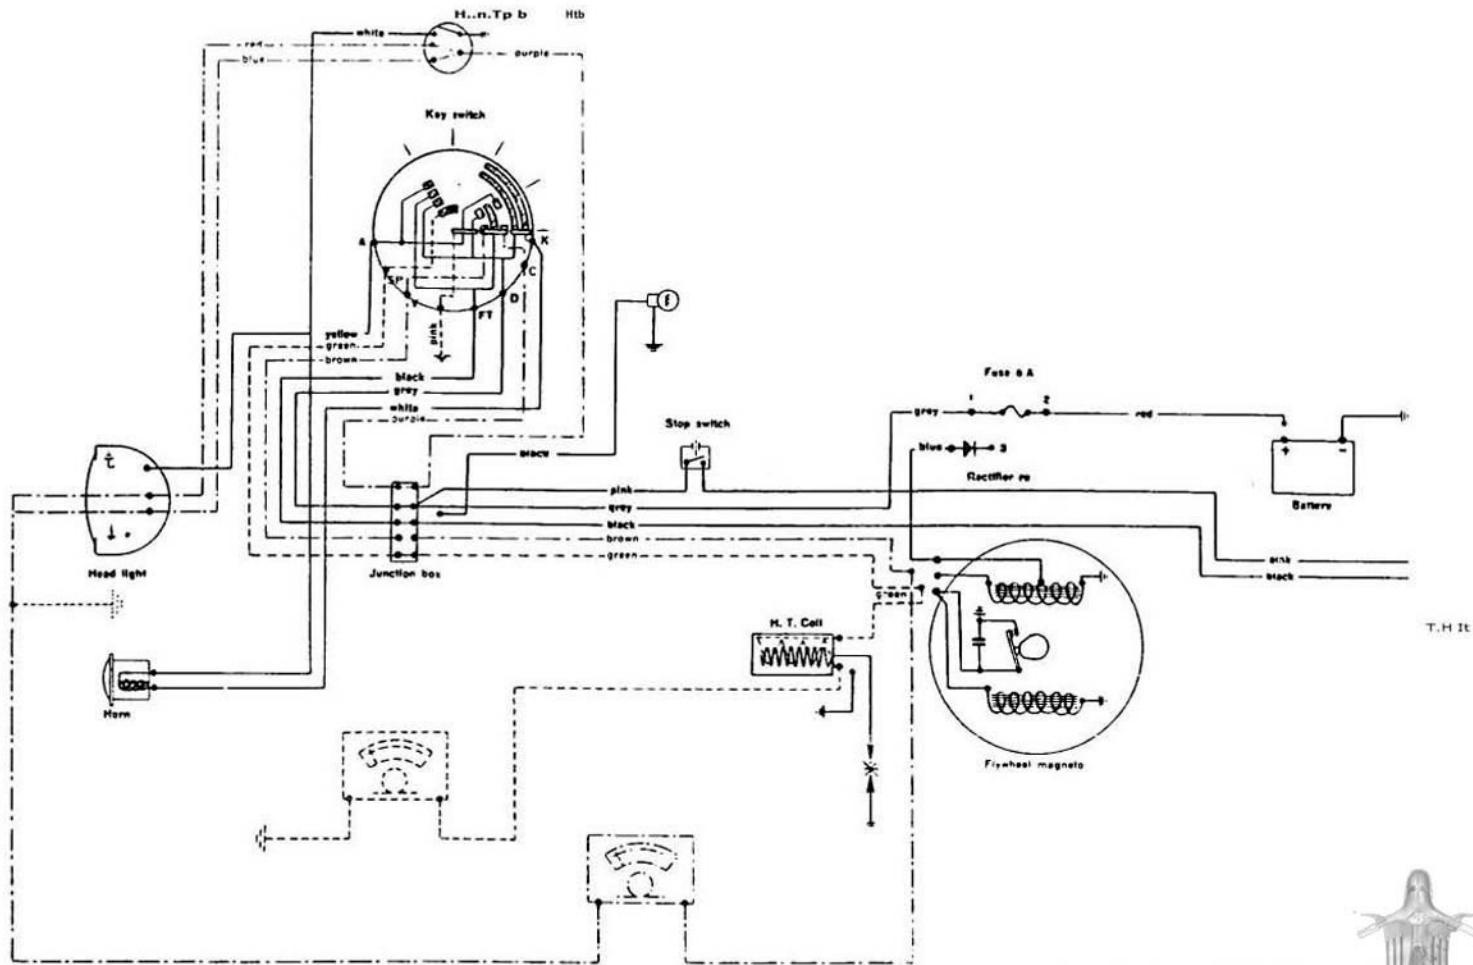

Fig. 45
- 3) **AC Lighting and Headlamp Bulb circuit.** See Fig. 45.
- 4) **Ignition earth switch earth primary H.T. Coil feed Circuits.** See Fig. 45.